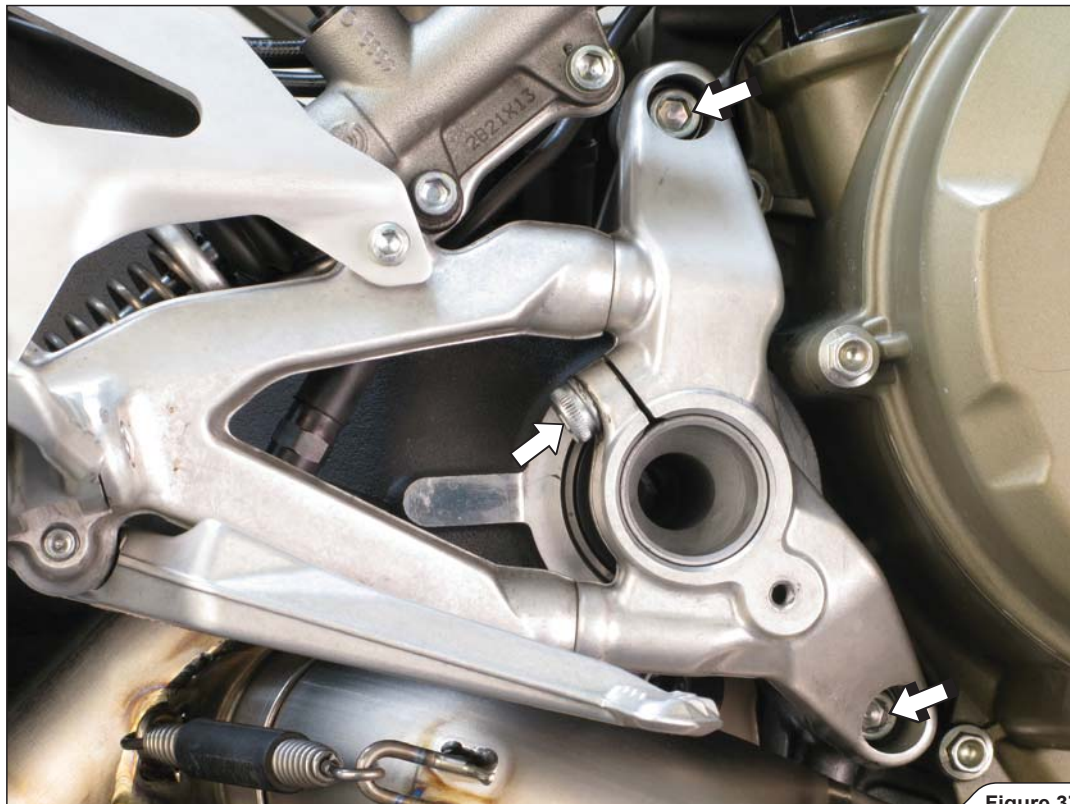

Figure 37
11. Unscrew the marked bolts and partially remove the right rider's foot rest (**Figure 37**).